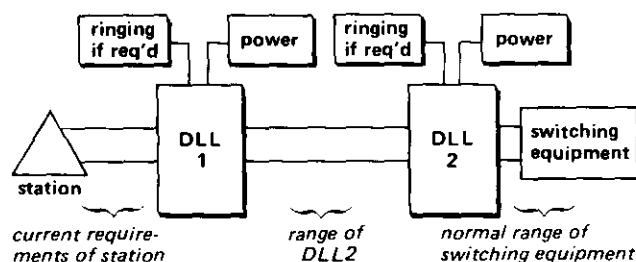

figure 4. Tandem DLL range limits
2.07 When the 7501 is operated in tandem with other DLL's (see figure 4), the maximum distance from the station to the nearest (first) DLL is determined by the current requirements of the station. The maximum distance from the first DLL to the next (second) DLL is determined by the station-side range of the second DLL, and so on. The maximum distance from the last DLL to the switching equipment depends upon the range of the switching equipment.